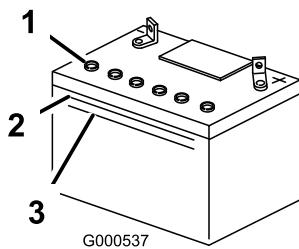

Figure 33
2. Look at the side of the battery. The electrolyte must be up to the Upper line (Figure 33). Do not allow the electrolyte to fall below the Lower line (Figure 33).
3. Remove the vent caps from the battery (Figure 33).
4. Slowly pour distilled water into each battery cell until the electrolyte level is up to the Upper line (Figure 33) on the battery case.
5. Wait five to ten minutes after filling the battery cells. Add distilled water, if necessary, until the electrolyte level is up to the Upper line (Figure 33) on the battery case.